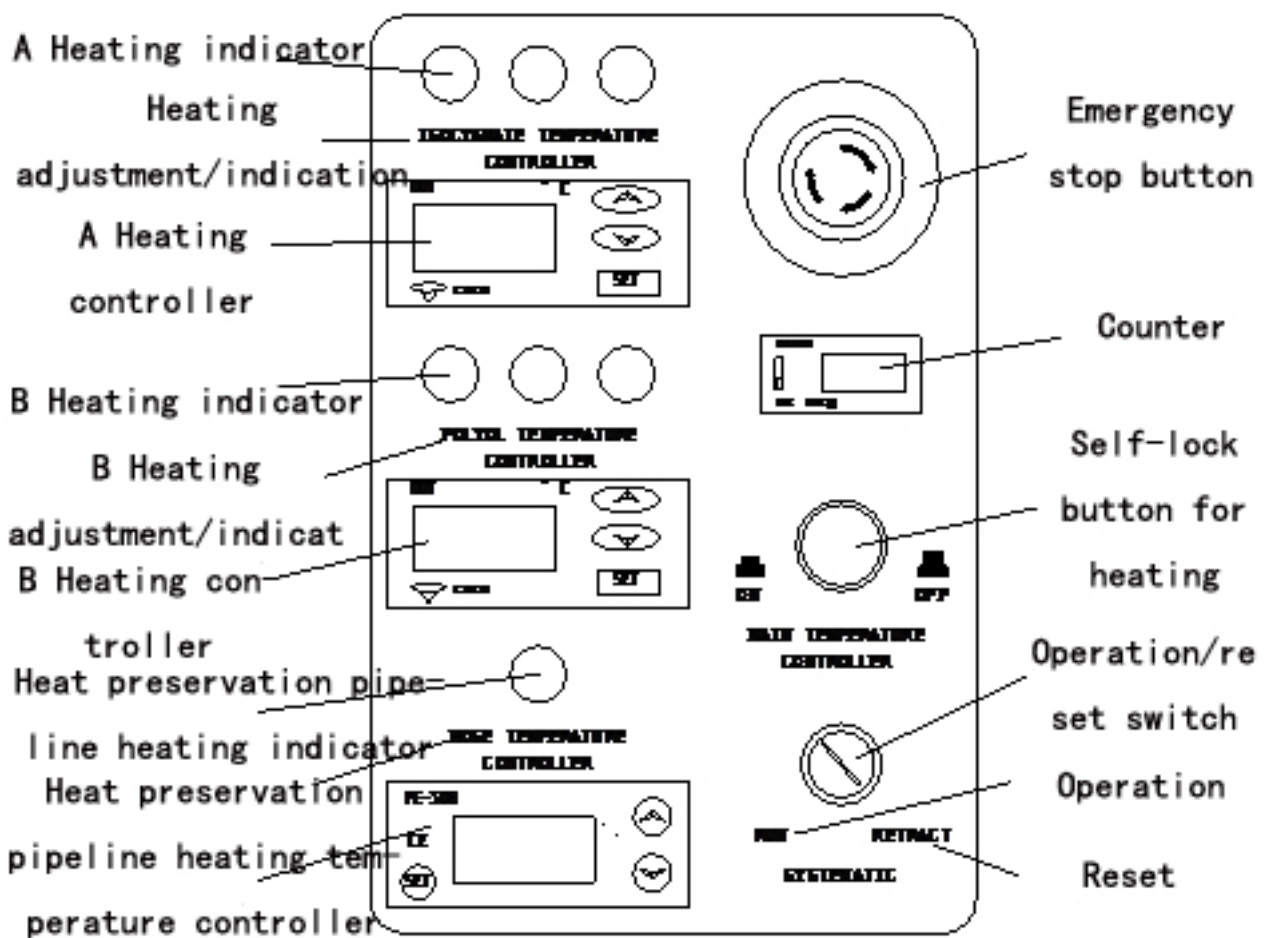

Figure 5
4.4JHPK-H30 Control instrument panel:(Figure 5)